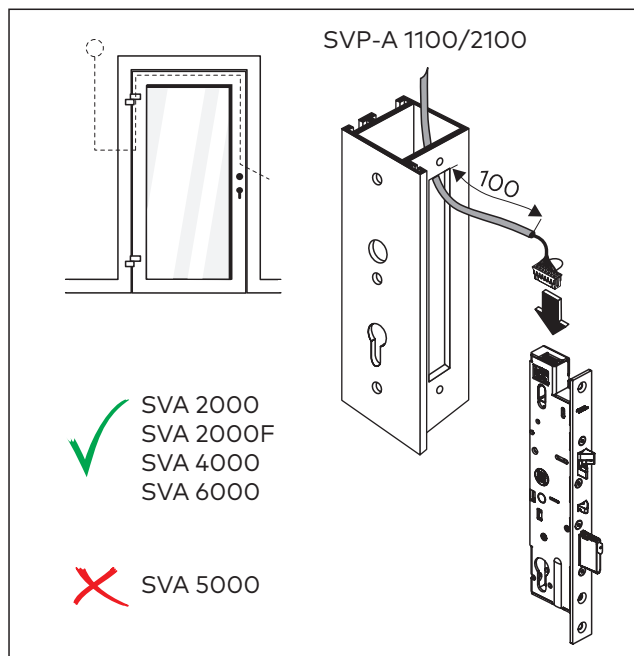

Fig. 16 Connect cable
1. Connect the cable (Fig. 16).